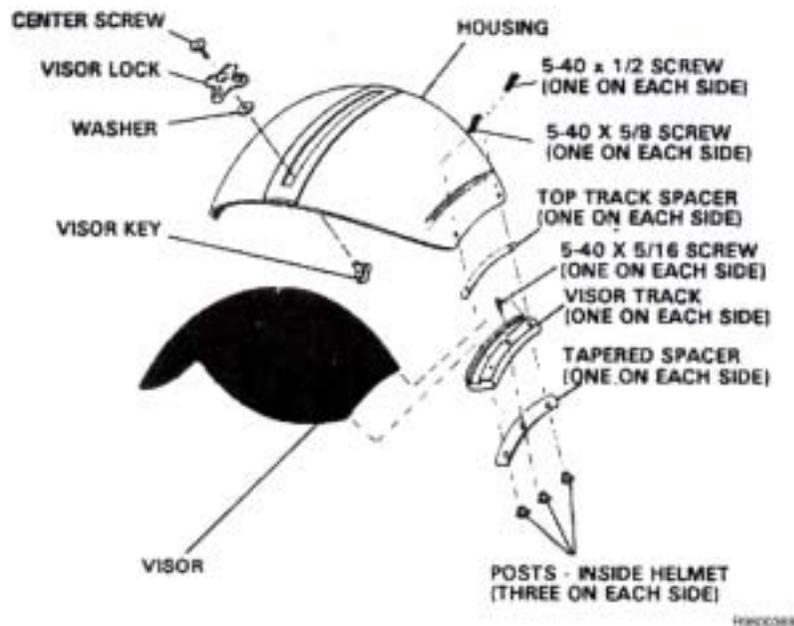

Figure 19. Visor Assembly (Exploded View)
- Be sure to install the spacers and tracks on the side of the housing (right or left) for which they were configured. When installed correctly, these parts will curve toward the center of the visor housing (see Figure 19).
- Spacers, track, screws, and posts are shown only on the left side of the visor housing in Figure 19. A similar configuration exists for the right side.